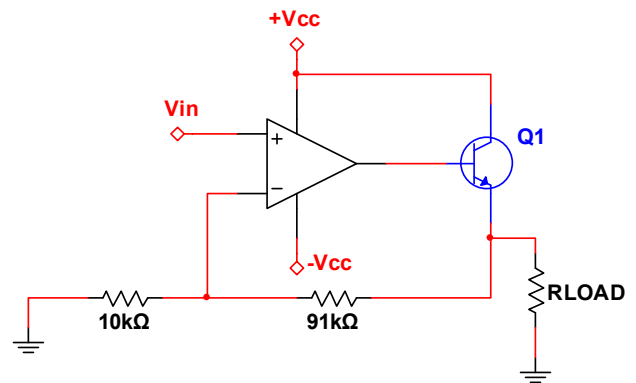

Fig. 6: V_{in} is a constant voltage for this op amp current booster.
- 6) Consider the current booster shown in Fig. 6. Assume an ideal op amp with $V_{CC} = 9V$. The transistor is a 2N3904, and use “typical” data sheet values at $25^\circ C$.